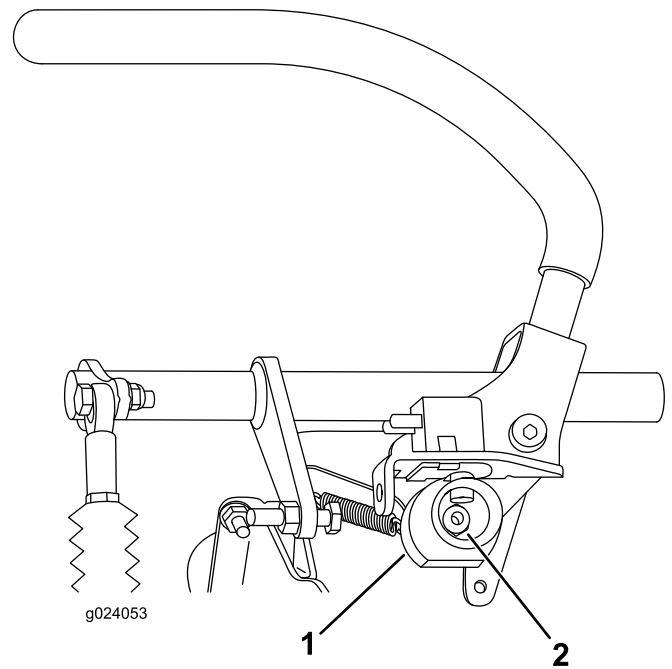

Figure 68
7. Loosen the nut holding the cam (Figure 68).